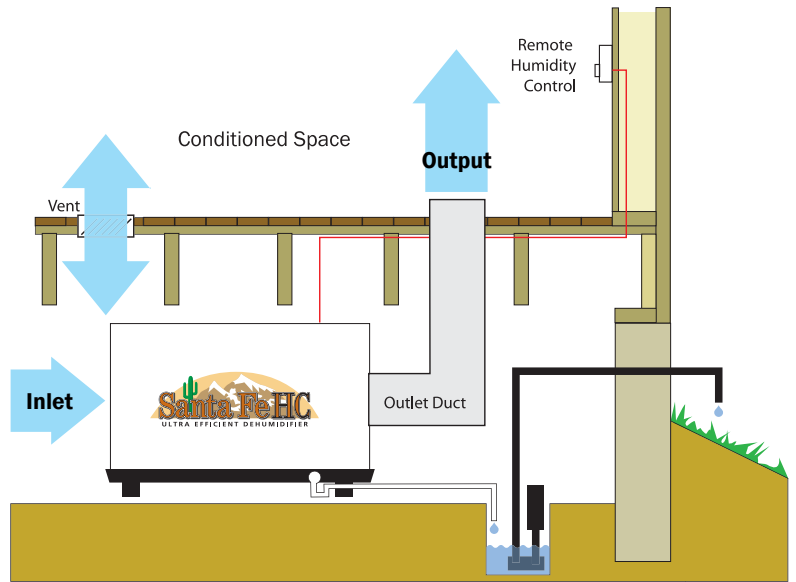

Figure 7: Installation in a remote area with ducted outlet only.
□ **4.1D In A Remote Area, Duct Outlet Only (Fig. 7)**
Before installing the dehumidifier in the manner described in section 4.1D (Fig. 7), call the factory for specific instruction if backdraft devices (i.e. hot water heaters) are present in the space to be dehumidified.